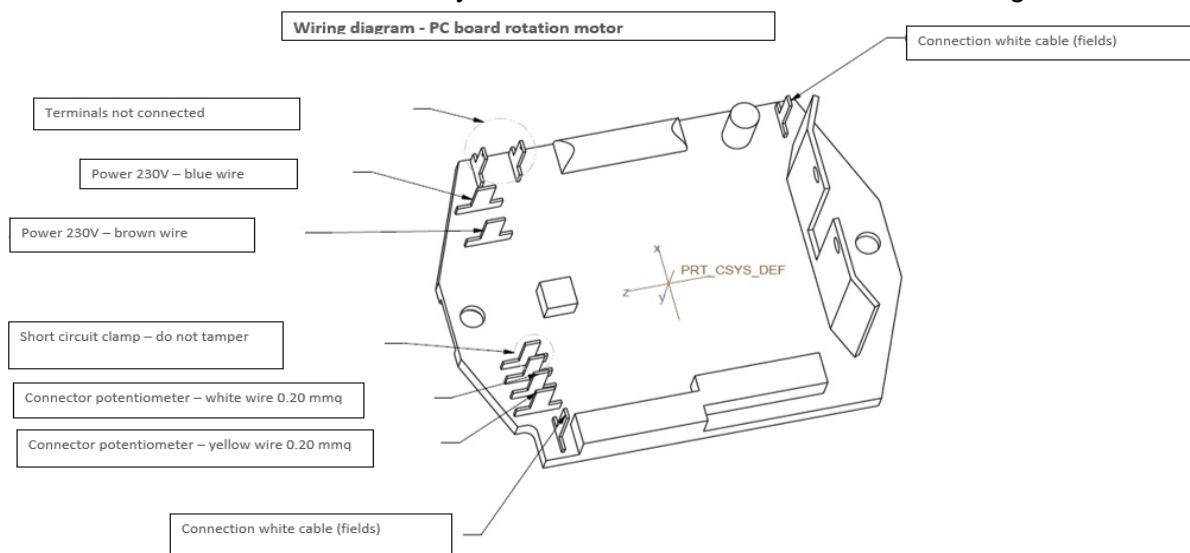

Figure 1.7
- 1.2.2 Proceed to disconnect the cables from the board, taking care, during reassembly, to restore the connections as shown in figure 1.7;